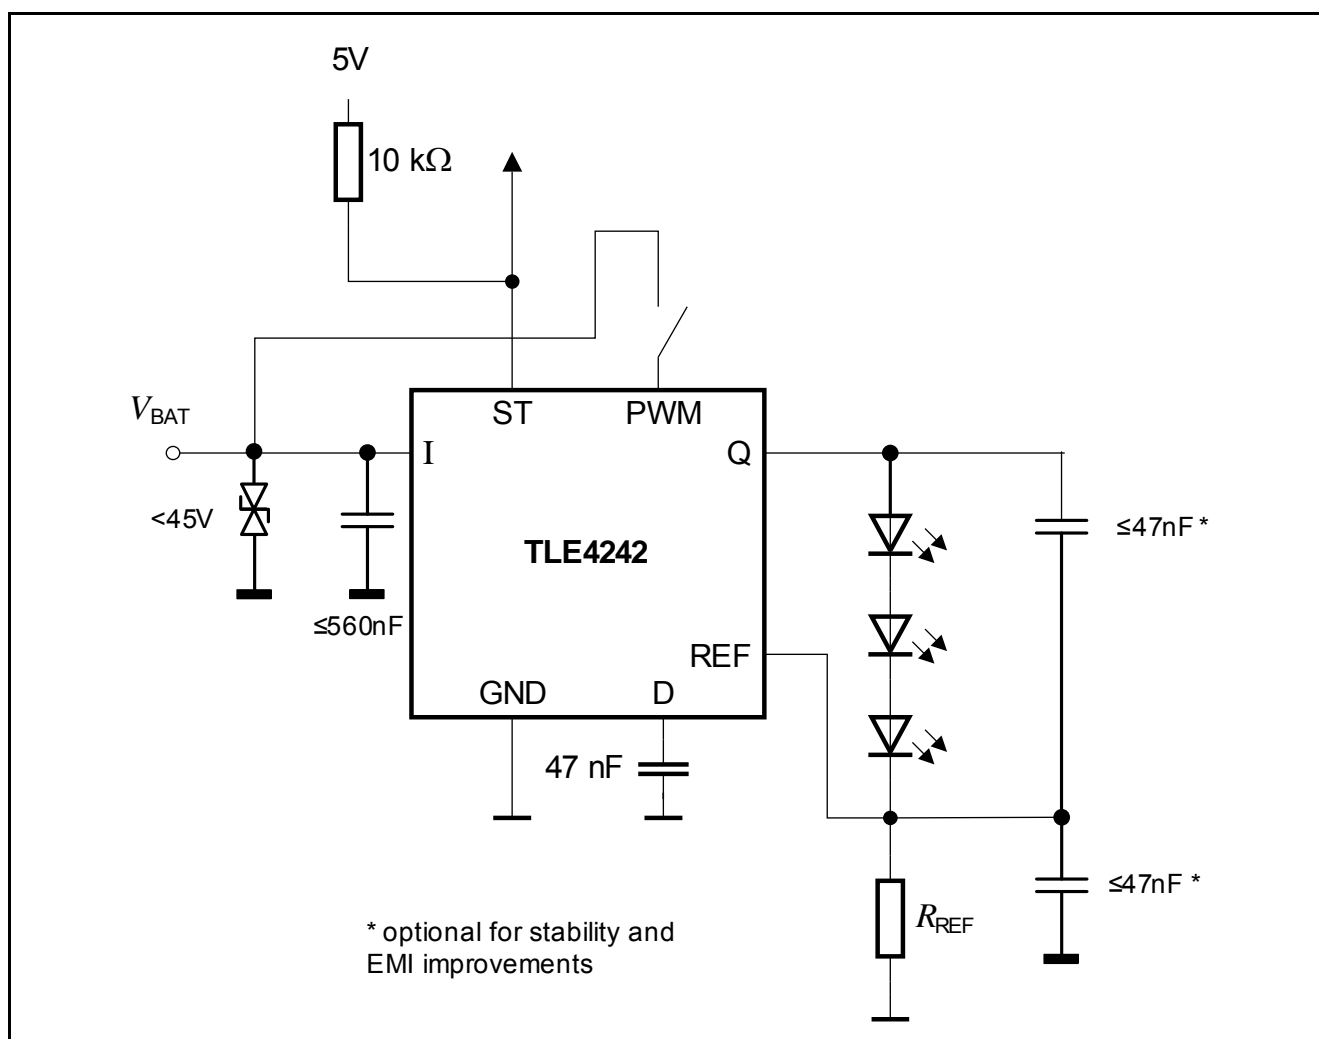

Figure 6-1 Application Diagram
The application example in **Figure 6-1** shows a typical application with the TLE4242EJ LED driver. The three LEDs are driven with an adequate supply current adjusted by the resistor R_{REF} . Thus brightness variations due to forward voltage spread of the LEDs are prevented. The luminosity spread arising from the LED production process can be compensated via software by an appropriate duty cycle applied to the PWM pin. Therefore, selection of the LEDs to forward voltage as well as to luminosity classes can be spared. The minimum supply voltage for the application is the sum of the LED forward voltages, the TLE4242EJ drop voltage **Minimum drop voltage $V_{dr} = VI - VQ$** and the max. voltage drop at the shunt resistor R_{REF} of $V_{REF(max)}$ according to **Reference voltage**.
2) $V_Q - V_{REF}$ equals the forward voltage sum of the connected LEDs, see Figure 6-1